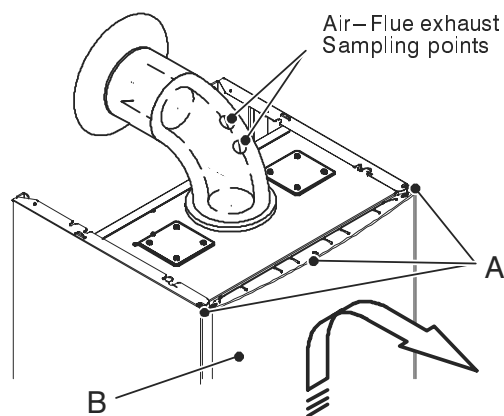

Fig. 8.1
- 1 Loosen the three screws A (Fig. 8.1).
If it is necessary to carry out a combustion analysis remove the plugs indicated in Fig. 8.1.